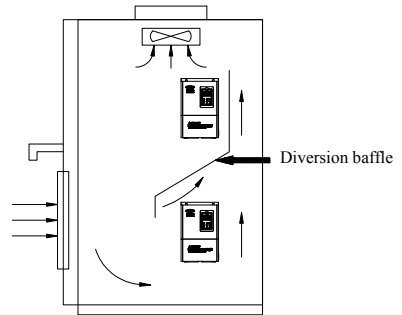

Fig.3-2 Installation diagram of multiple inverters
(3) When installing multiple inverters up and down, leading divider must be applied between them, See Fig.3-2.